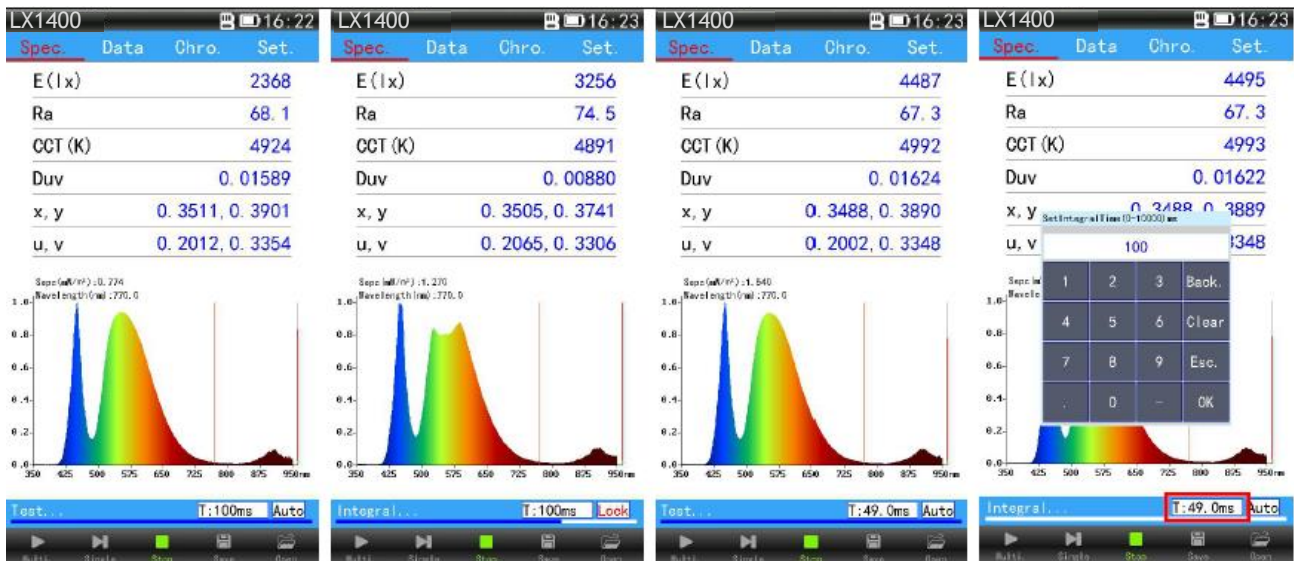

Fig.1
The illuminance calibration needs in light rail of darkroom lab's (light rail as shown above). The first step is to light the standard light source, wait for the light source to be stable, then put the equipment on the platform, the lighting hole is right at the center of shade board, move the car to 1 meters away from the light source, then click on the "illuminance calibration" pop-up dialog box (see Figure 1), in the "E (LX)" to enter the standard illuminance value and then click the 【calibration】 (as shown in Figure 2), wait for the data to be stable and click [stop] (see Figure 3), Click 【save】 (see Figure 4 below), calibration completion. Respectively in 1 meters, 2 meters, 3 meters.....Test the standard light source and record the data to determine the accuracy.